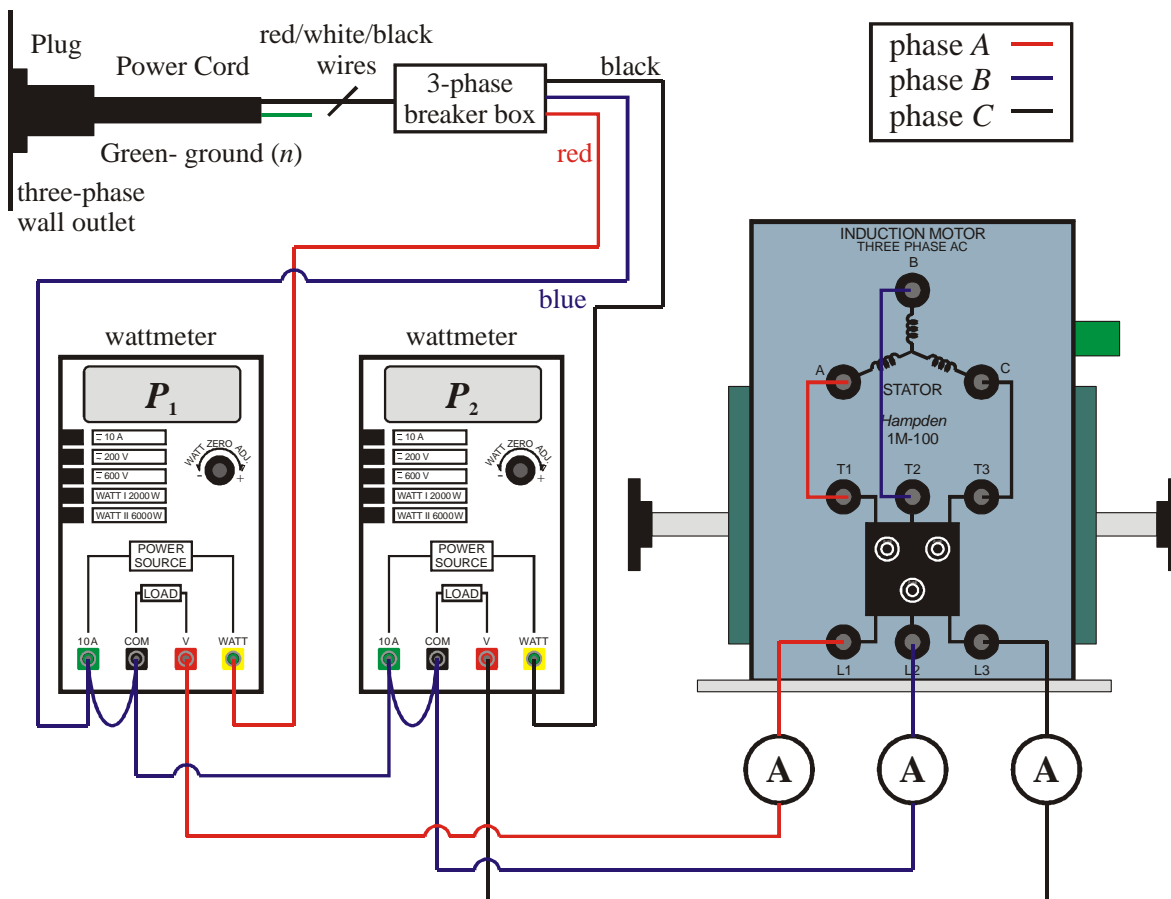
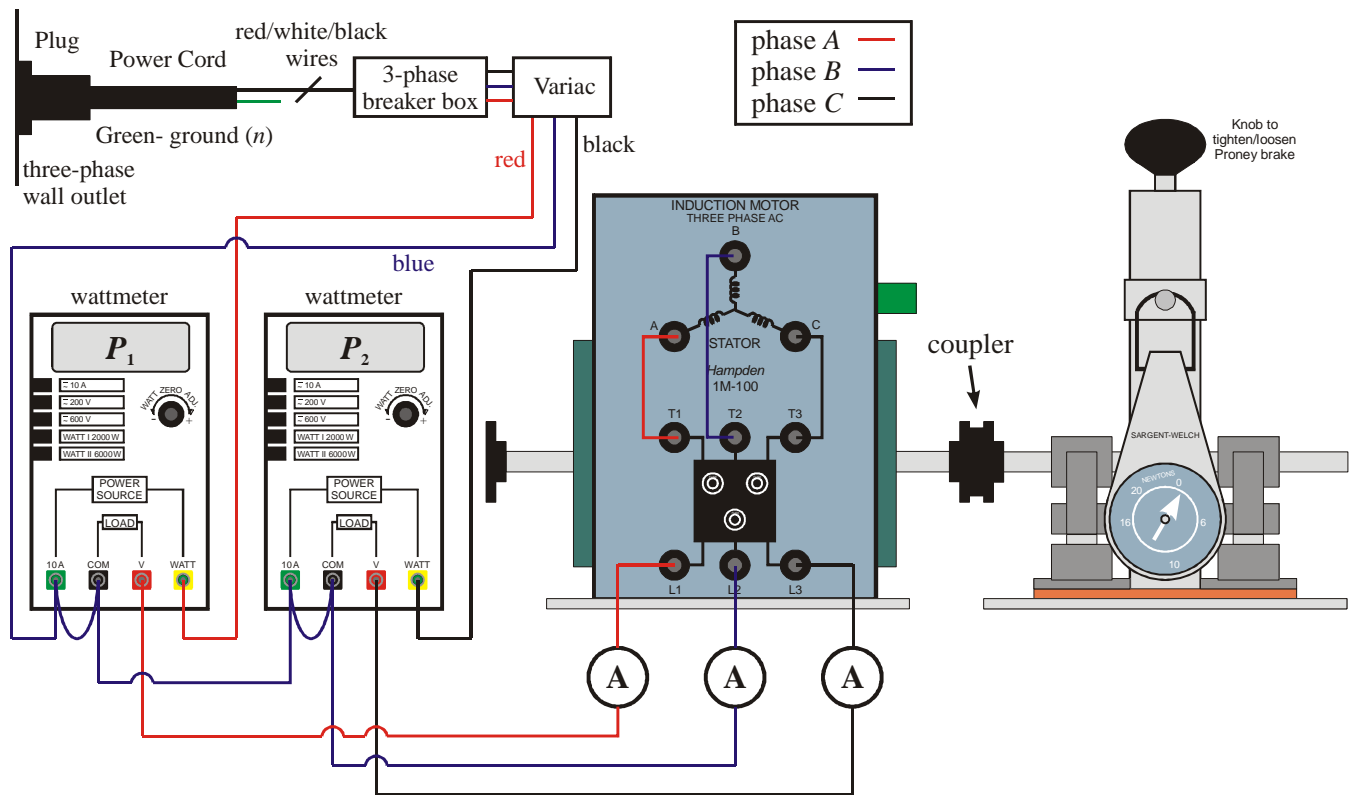

Figure 1 Set-up for No-Load Test (Experiment 1).
Figure 2 Set-up for Locked Rotor Test (Experiment 2).
- 2) Connect the induction motor as shown in Figure 1. Ensure that the three-phase breaker is 'off' and that the Proney brake is not connected.
- 1) Connect the induction motor as shown in Figure 2. Note that the differences with Figure 1 are the insertion of the variac and connecting the Prony brake.